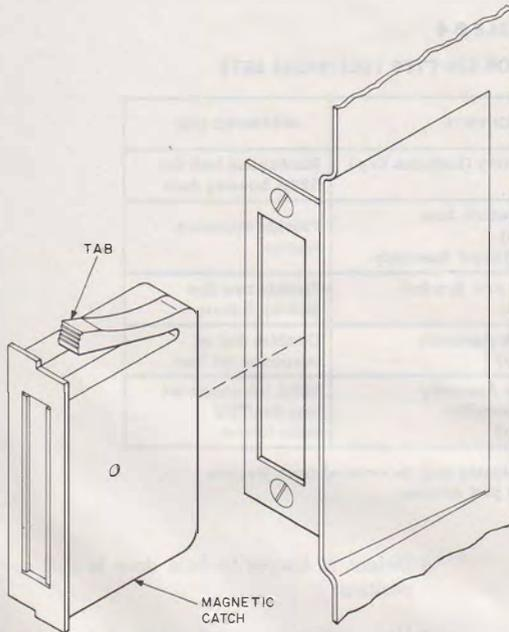

Fig. 4—Partial View of 526A Housing Assembly, Installation of Magnetic Catch
- (2) Fasten bracket to narrow or round surface using the 3/8-inch holes centered at top and bottom of bracket.
- (3) Bolts and washers for mounting the telephone set are furnished with 29D bracket.
- (4) With the outer and inner doors open, mount the 525-type telephone set on the 29D bracket.
- (5) Mount the 526A housing on the 29D bracket before the telephone set base is installed in the housing.
- (6) ♦After installing 526A housing assembly, install magnetic catch as shown in Fig. 4. Depress until flush, and both tabs are locked in place.♦